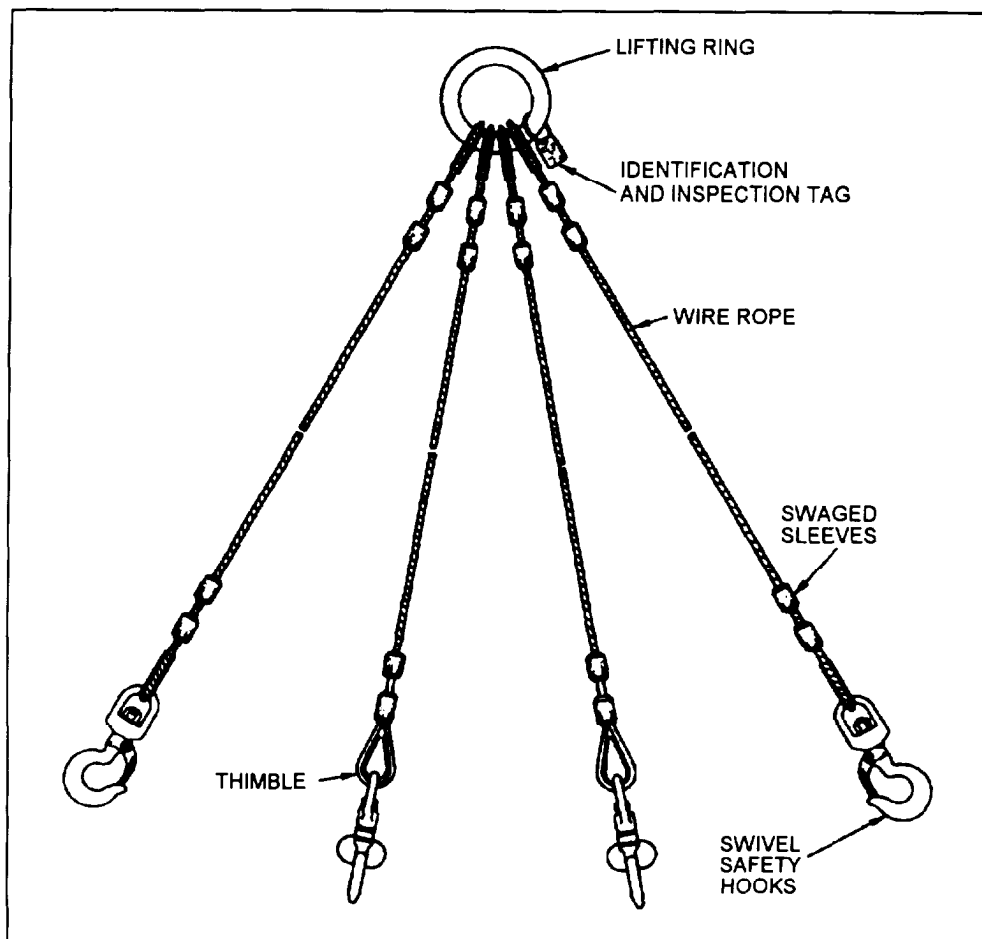

Figure 2-6.—Mk 99 Mod 0 weapons-handling sling.
**MK 99 MOD 0 WEAPONS-HANDLING SLING.**— The Mk 99 Mod 0 weapons-handling sling is used at dockside and aboard ammunition ships for loading combatant ships with crated mines and palletized unit loads of mines. This sling, shown in figure 2-6, consists of four swiveled safety hooks, each attached to a flexible, galvanized 1/2-inch, wire-rope leg. The four legs are joined to a 5 1/2-inch lifting ring that is compatible with standard cargo lifting gear used at dockside or aboard ammunition ships. Its rated lifting capacity is 6,000 pounds. The sling is used for lifting one crated Mk 56 mine or two Mk 55 mines in parallel by the suspension lugs.